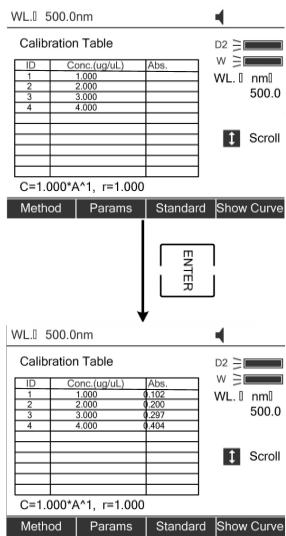

Fig. 4.5
5) Calibrate Standard Samples. Put the corresponding standard samples in the light path as the screen indicates and press [**START/STOP**] to measure. Then the Abs. value would appear in the corresponding table (Fig. 4.5)